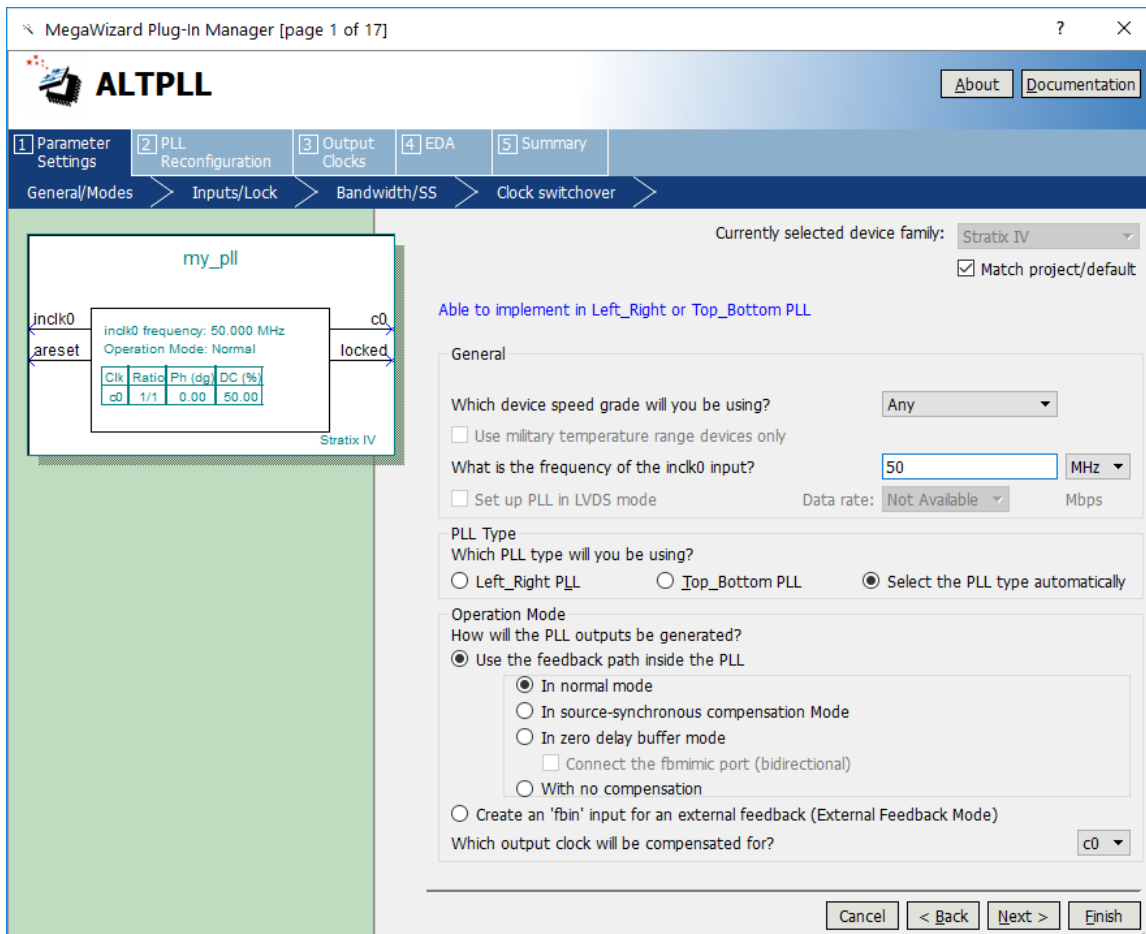

Figure 14. Settings for General/Mode section.
- Under the **Parameter Settings** tab, set **What is the frequency of the inclk0 input** to 50MHz as shown in Figure 14 and click **Next** to go to the **Inputs/Lock** section.